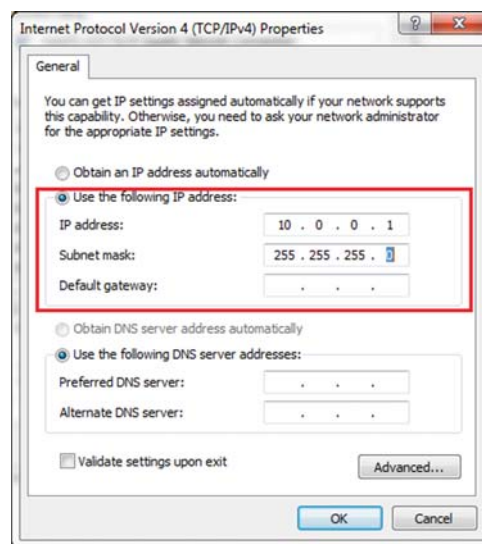

Fig. 4. Set the IP address and Subnet mask.
- Set the **IP address** of the monitor computer to "10.0.0.1" and **Subnet mask** to "255.255.255.0" and click **OK** (→ fig. 4).